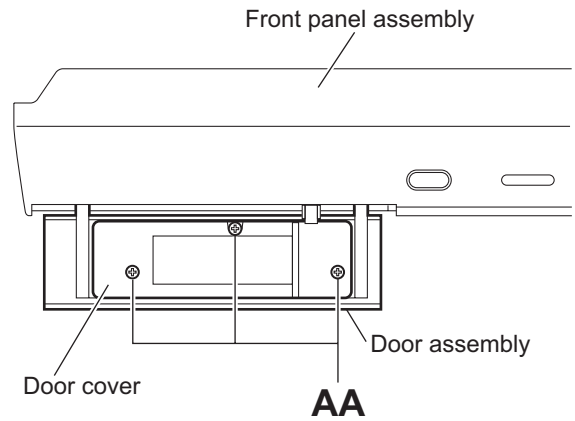

Fig.18
3.1.13 Removing the illumination board (See Figs.18 and 19)
- (1) Open the door assembly of the front panel assembly and remove the three screws **AA** attaching the door cover to the door assembly. (See Fig.18.)